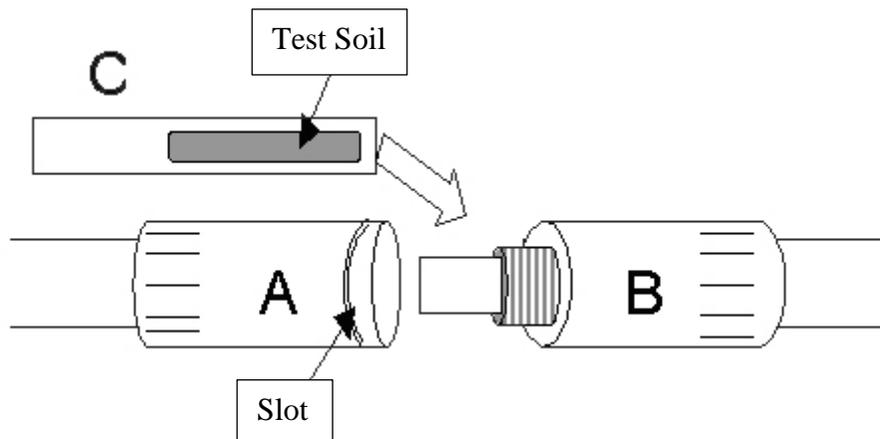

Figure 1
2. Unscrew LumCheck™ device; detach part A (marked with slot) from part B (Fig. 1).